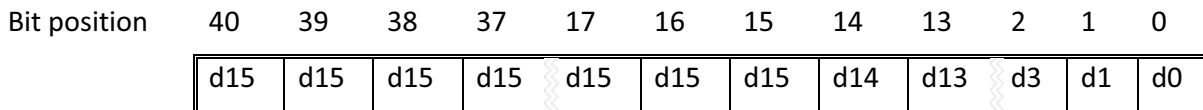

Figure 22.5. DMA Transfer into Accumulator in Sign and Unsigned Modes
- If the ACCDMAIN field specifies a transfer length of less than 5 bytes, only the least significant bytes of the accumulator will receive data from the DMA. The upper bytes will be sign-extended in a way that is compatible with the SIGNEDEN setting as shown in Figure 22.5. The example below shows the result of the 41-bit accumulator after a transfer of a 16-bit number d[0:15] by DMA.